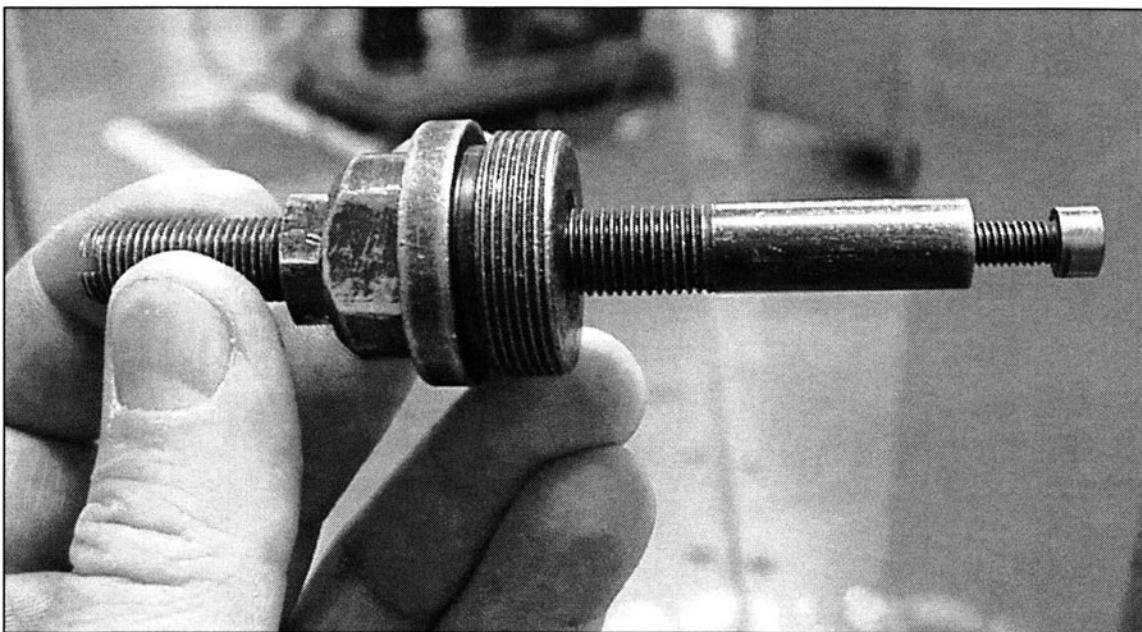

FIGURE 3-5 A screw mounted in the end of a collet stop allows the stop to be used in smaller diameter collets.
8. *Put a small screw in the end of your collet stop to make it more versatile. (See Fig. 3-5)*